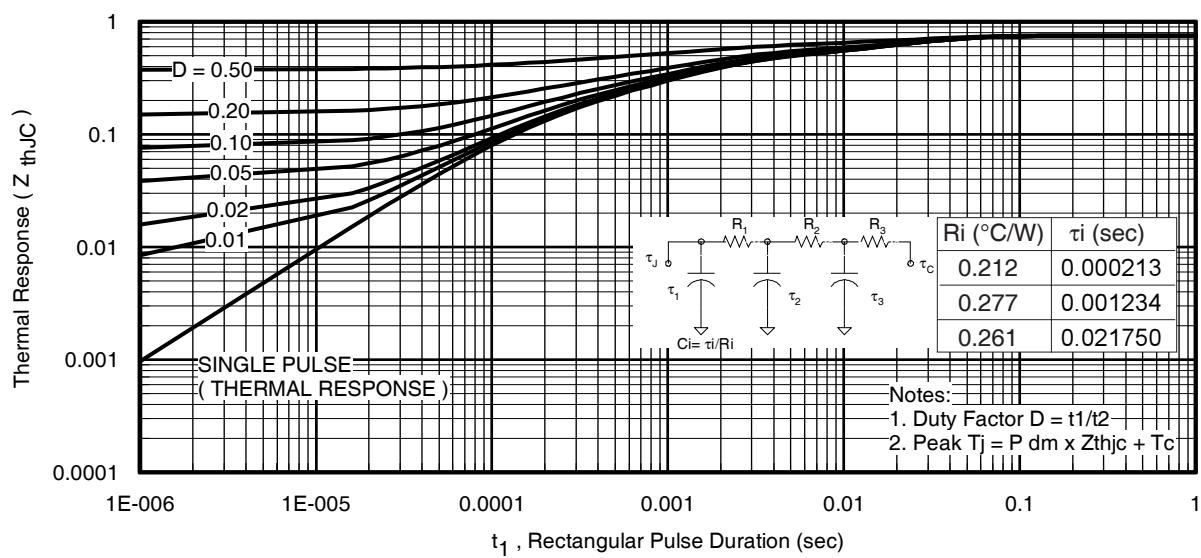
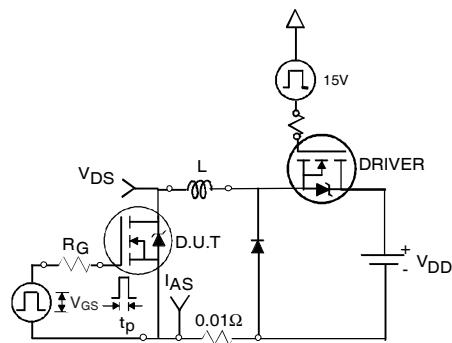

Fig 11. Maximum Effective Transient Thermal Impedance, Junction-to-Case
Fig 12a. Unclamped Inductive Test Circuit
- ① Repetitive rating; pulse width limited by max. junction temperature. (See fig. 11).
- ② Limited by $T_{J\text{max}}$, starting $T_J = 25^\circ\text{C}$, $L = 0.066\text{mH}$, $R_G = 25\Omega$, $I_{AS} = 75\text{A}$, $V_{GS} = 10V$. Part not recommended for use above this value.
- ③ Pulse width $\leq 1.0\text{ms}$; duty cycle $\leq 2\%$.
- ④ $C_{oss \text{ eff.}}$ is a fixed capacitance that gives the same charging time as C_{oss} while V_{DS} is rising from 0 to 80% V_{DSS} .
- ⑤ Limited by $T_{J\text{max}}$, see Fig.12a, 12b, 15, 16 for typical repetitive avalanche performance.
- ⑥ This value determined from sample failure population. 100% tested to this value in production.
- ⑦ This is only applied to TO-220AB package.
- ⑧ When mounted on 1" square PCB (FR-4 or G-10 Material). For recommended footprint and soldering techniques refer to application note #AN-994.
- ⑨ TO-220 device will have an R_{th} value of $0.65^\circ\text{C}/\text{W}$.
3. Equation below based on circuit and waveforms shown in Figures 12a, 12b.
$Z_{thJC}(D, t_{av})$ = Transient thermal resistance, see figure 11)